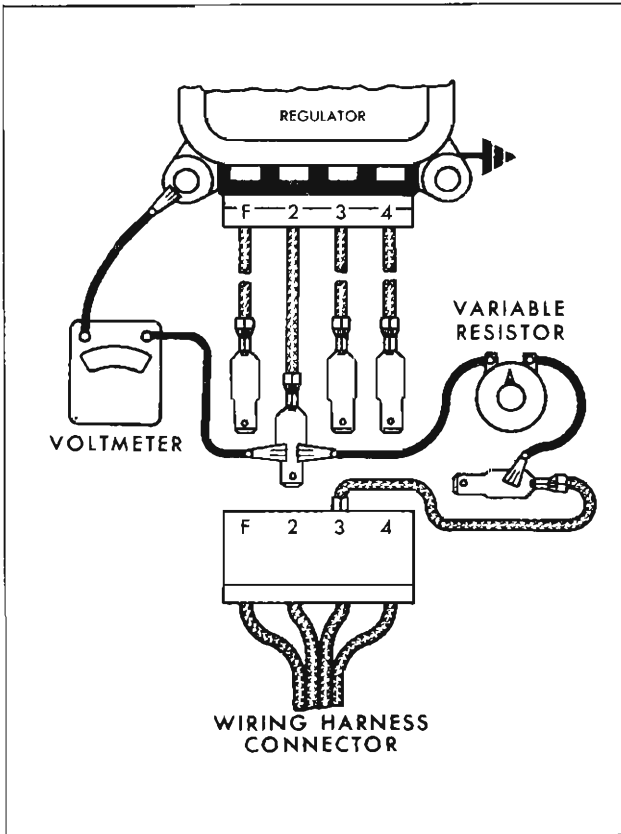

Fig. 11c—Field Relay Closing Voltage Test
1. Make connections as shown in Figure 11c using a 50 ohm variable resistor.